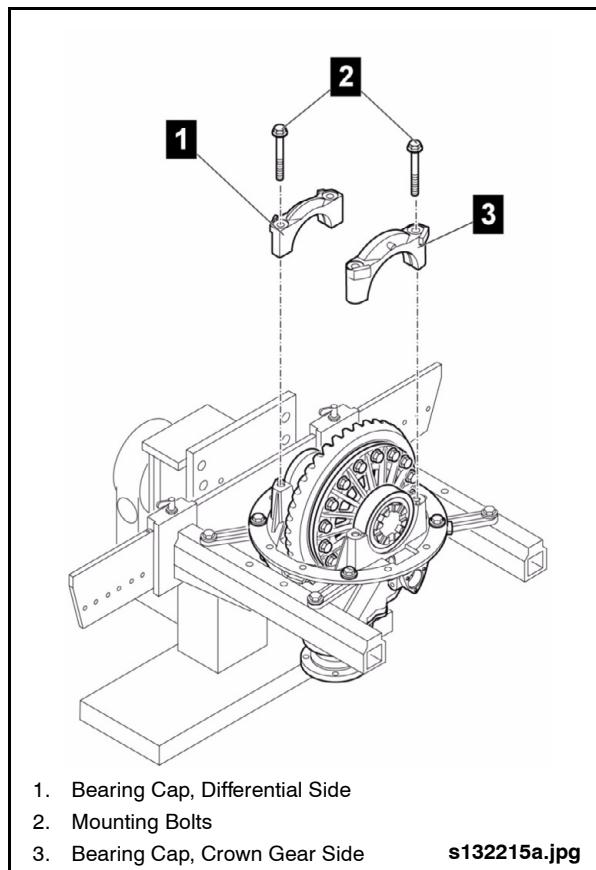

Fig. 2-50: Bearing Cap Installation
1. Refer to the markings made during removal and position the bearing caps in their original location. See "Fig. 2-50: Bearing Cap Installation" on page 44.